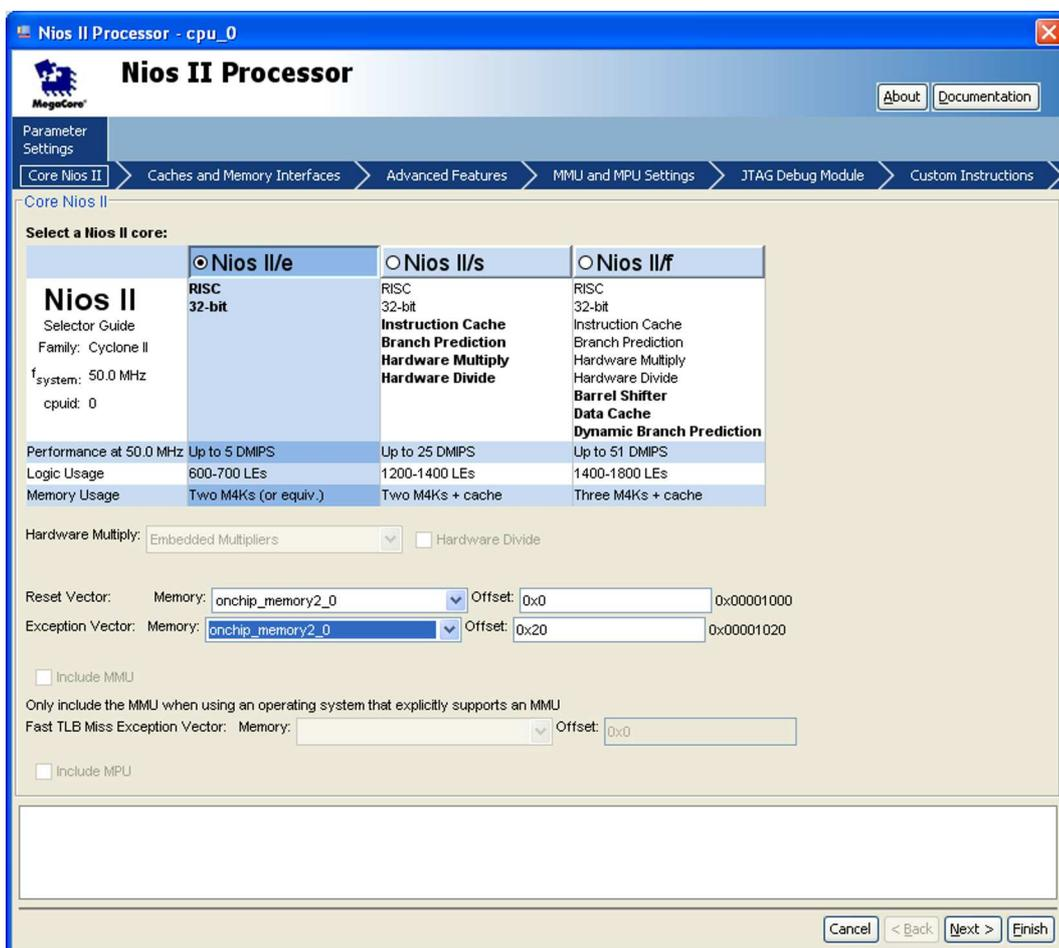

Figure 15. Define the reset vector and exception vector.
- Right-click on the cpu\_0 and then select Edit to reach the window in Figure 15